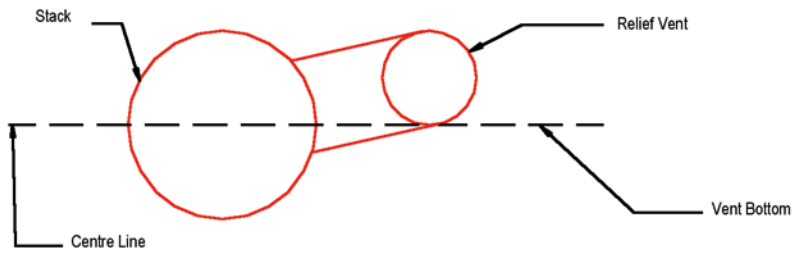

Fig 3a Manifolding Of Stack Vents
- 2.2 Interconnection of stack vents may occur 1m min above the highest flood rim level of the highest fixture for termination above roof level at a common point by increasing the size of the vent by one HDPE pipe size downstream of each the interconnection Junction. (see figure 3a)